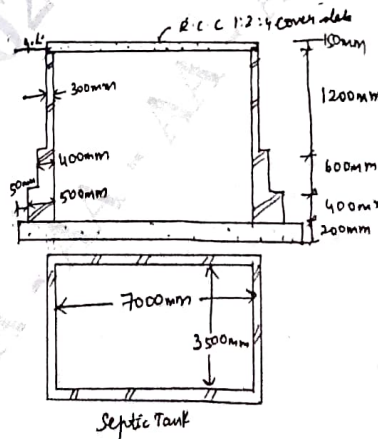

Fig Q10
- 10 The details of septic tank are given in Fig Q10. Find the quantities for the following work.